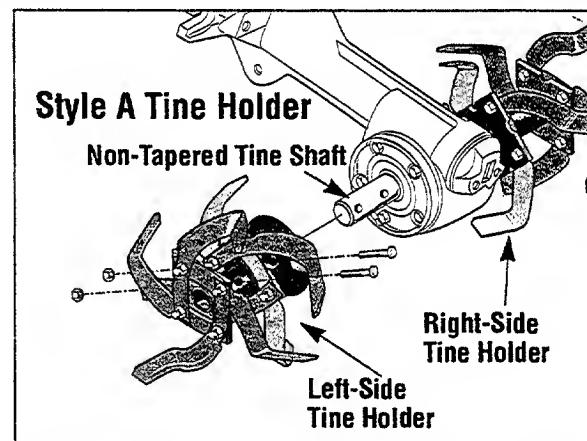

Figure 5-33A: Style "A" Tine Holders—Left and right-side tine holders are secured to the tine shaft with two bolts and two nuts.
The 16 Bolo Tines are mounted eight per side on left-side and right-side tine holders – on either Style A or Style B holders (refer to Figures 5-33A and 5-33B to see which style tine holder you have). Style "A" tine holders are secured to the tine shaft with two bolts and two nuts. Style "B" tine holders are secured with a single end bolt to the left and right sides of the tine shaft. Here's how to replace the tines and holders as assemblies.
3. With Style A holders, remove the two bolts and nuts securing each holder (Fig. 5-33A). With Style B holders, remove the single bolt (along with the washers) from